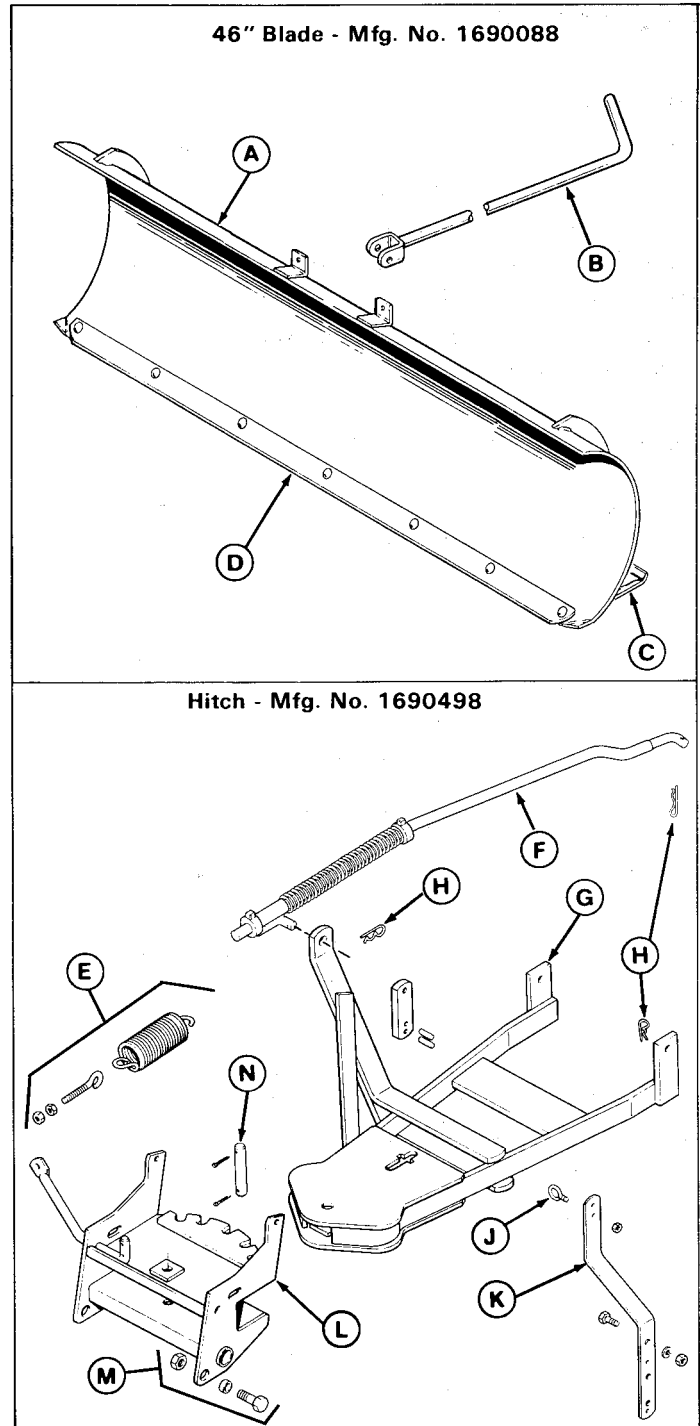

Figure 2. 46" Blade and Hitch
For easier 46" blade installation, the pivot frame (L, figure 2) can be separated from the push bar (G) by removing the pivot pin (N).